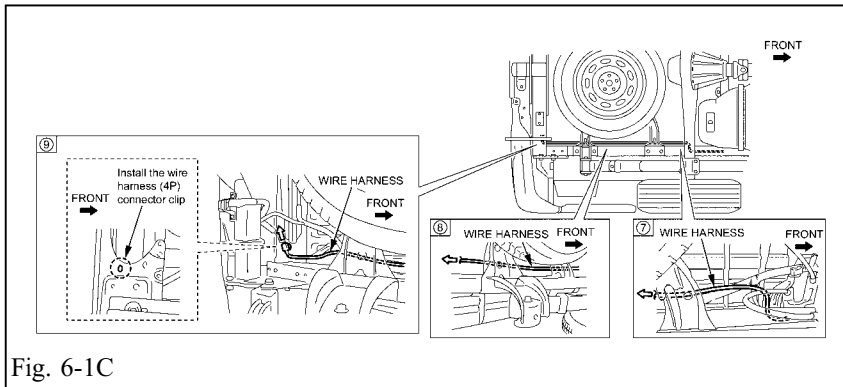

Fig. 6-1C
- ⚠ (2) Install the wire harness (4P) connector clip to the position illustrated. (Fig. 6-1C)